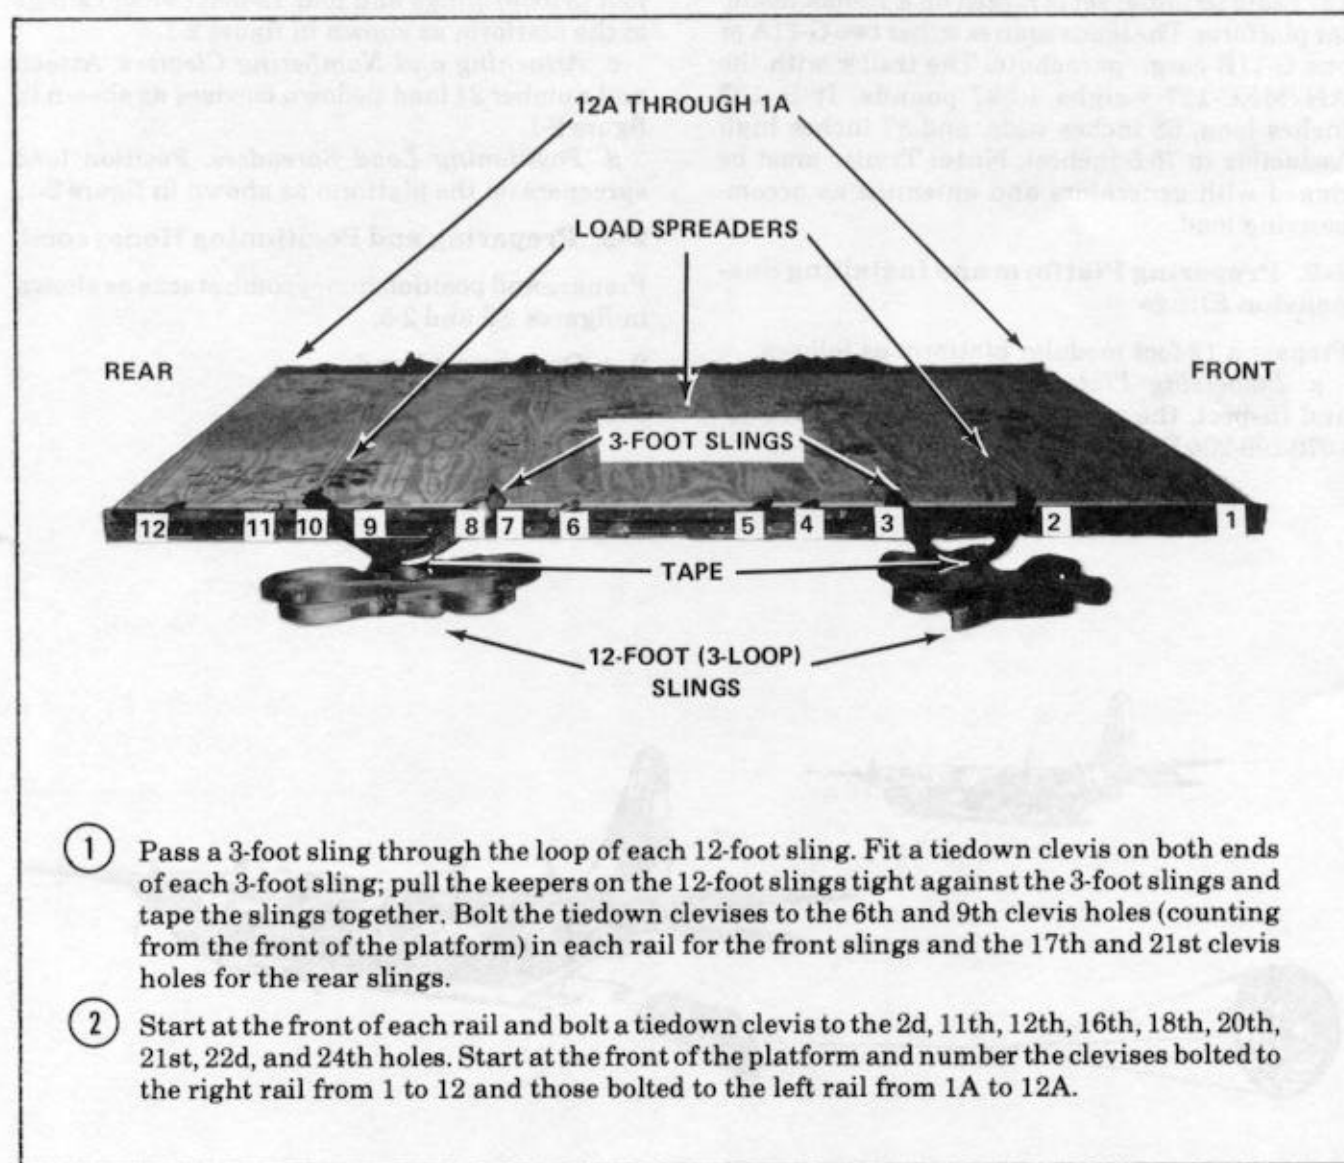

Figure 2-1. Platform prepared and suspension slings installed.
b. Attaching Suspension Slings. Attach four 3-foot (3-loop) slings and four 12-foot (3-loop) slings to the platform as shown in figure 2-1.
c. Attaching and Numbering Clevises. Attach and number 24 load tiedown clevises as shown in figure 2-1.
d. Positioning Load Spreaders. Position load spreaders on the platform as shown in figure 2-1.